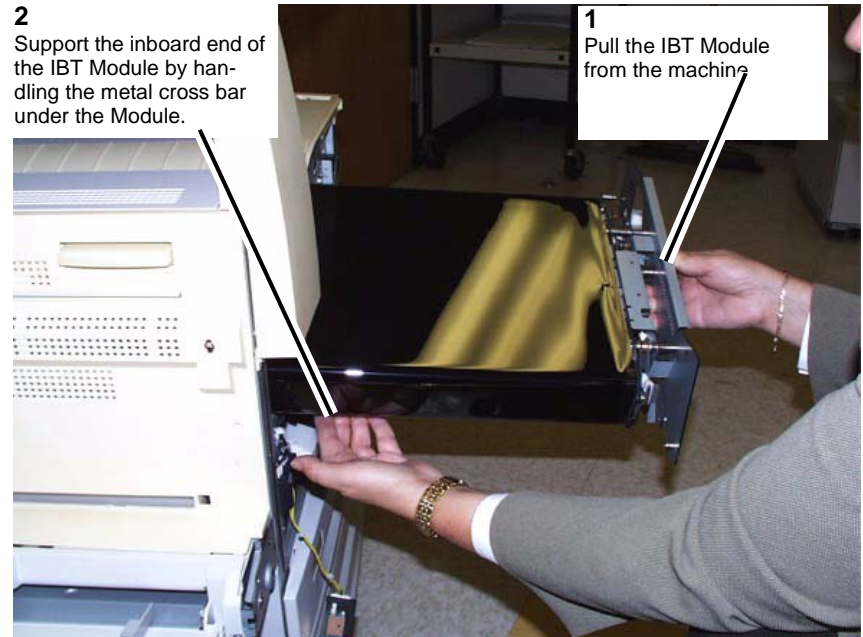

Figure 9 Removing the IBT Module from the machine
13. Pull the IBT Module out of the machine. (Figure 9)